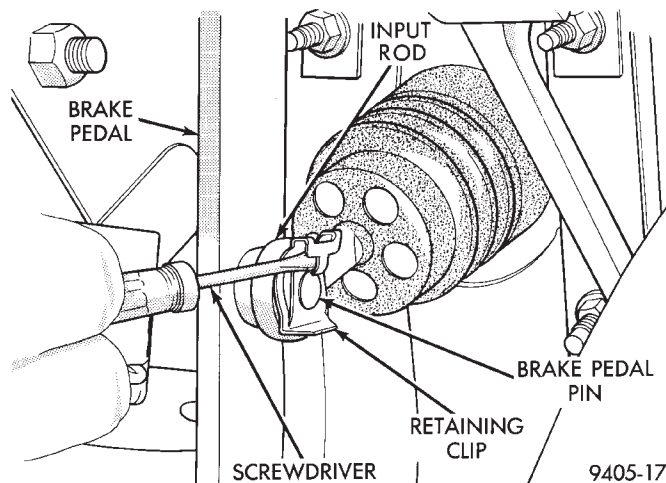

Fig. 115 Input Rod Retaining Pin
(13) Remove the vacuum hoses from the check valve located on the power brake vacuum booster.
(14) Locate the power brake vacuum booster input rod to brake pedal attachment under instrument panel. Position a small screwdriver between the center tang on the power brake booster input rod to brake pedal pin retaining clip (Fig. 115). Rotate screwdriver enough to allow retaining clip center tang to pass over end of brake pedal pin. Then pull retaining clip off brake pedal pin. **Discard retaining clip. Replace only with a new retaining clip when assembled.**